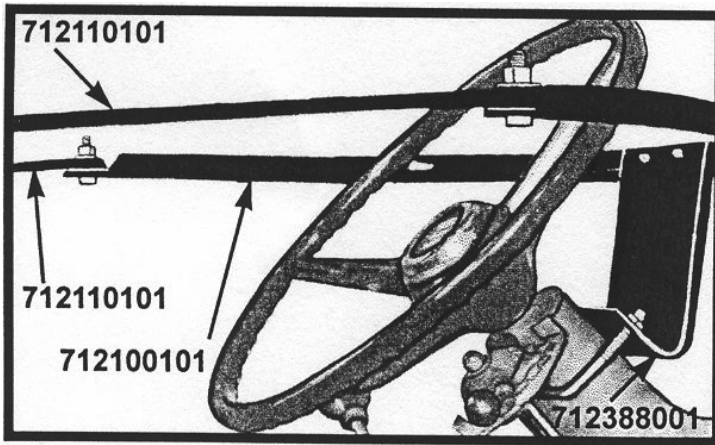

Figure 1
1. Install the # 712388001 Mount Bracket on the steering column using U-bolt. Place the U-bolt between the throttle rod and steering column with the threaded ends down. See Figure 4. Rotate the U-bolt forward and up around the steering column to the position shown in Figure 1 &